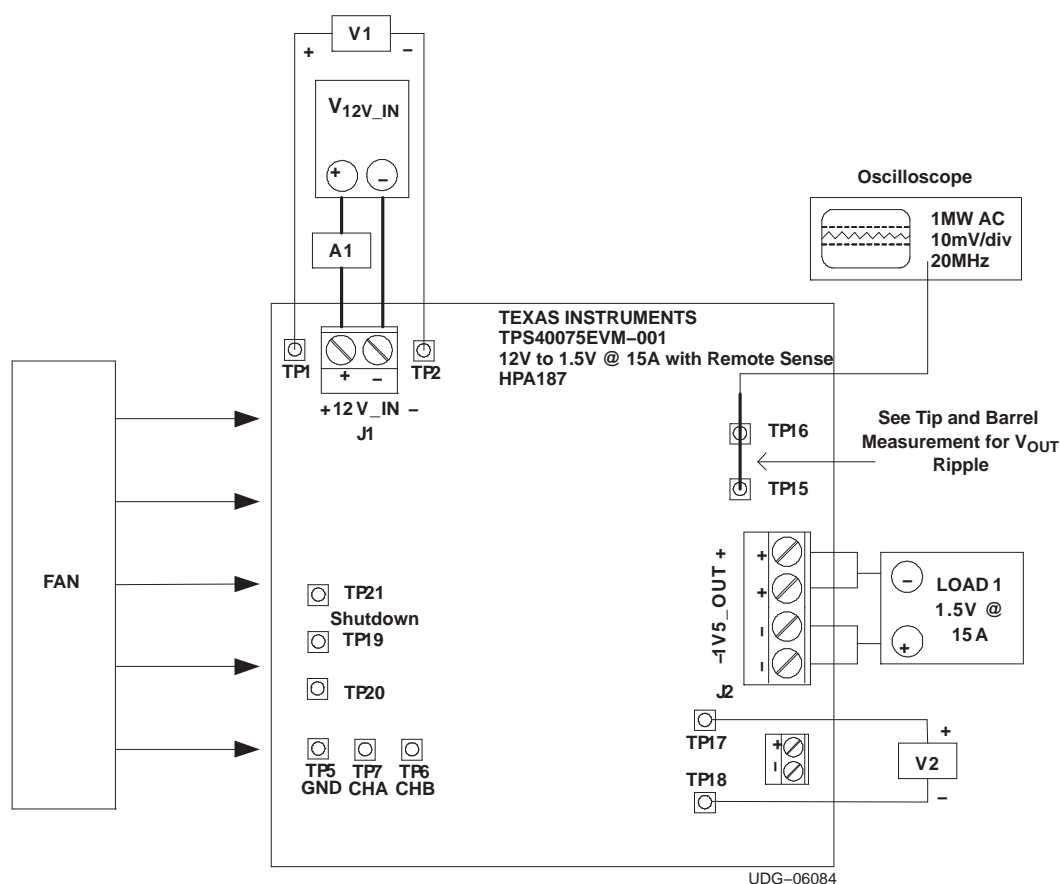
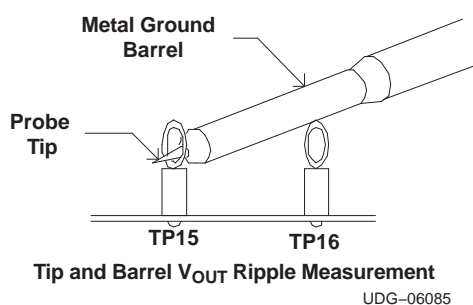

Figure 2. TPS40075EVM-001 Recommended Test Set-Up
Figure 3. Output Ripple Measurement – Tip and Barrel using TP15 and TP16
The input voltage source ( $V_{12V\_IN}$ ) should be a variable DC source between 0 V and 15 V, and capable of 5 ADC. Connect  $V_{12V\_IN}$  to J1 as shown in Figure 3.
A 60 MHz or faster oscilloscope can be used to determine the ripple voltage on 1V5\_OUT. The oscilloscope should be set for 1 M $\Omega$  impedance, AC coupling, 1 $\mu$ s/division horizontal resolution, 20 mV/division vertical resolution for taking output ripple measurements. TP15 and TP16 can be used to measure the output ripple voltage by placing the oscilloscope probe tip through TP15 and holding the ground barrel to TP16 as shown in Figure 3. For a hands free approach, the loop in TP16 can be cut and opened to cradle the probe barrel. Using a leaded ground connection may induce additional noise due to the large ground loop area.
Shown in Figure 3 is the basic test set up recommended to evaluate the TPS40075EVM-001. Note that although the return for J1 and J2 are the same, the connections should remain separate as shown in Figure 2.
2. Prior to connecting the DC input source,  $V_{12V\_IN}$ , it is advisable to limit the source current from  $V_{12V\_IN}$  to 5.0A maximum. Make sure  $V_{12V\_IN}$  is initially set to 0V and connected as shown in Figure 2.
3. Connect the ammeter A1 (0–5A range) between  $V_{12V\_IN}$  and J1 as shown in Figure 2.
4. Connect voltmeter V1 to TP1 and TP2 as shown in Figure 2.
6. Connect voltmeter, V2 across TP17 and TP18 as shown in Figure 2.
7. Connect Oscilloscope probe to TP16 and TP15 as shown in Figure 3.
8. Place Fan as shown in Figure 2. and turn on, making sure air is flowing across the EVM.
Table 3 lists the EVM components as configured according to the schematic shown in Figure 1 and Figure 2.